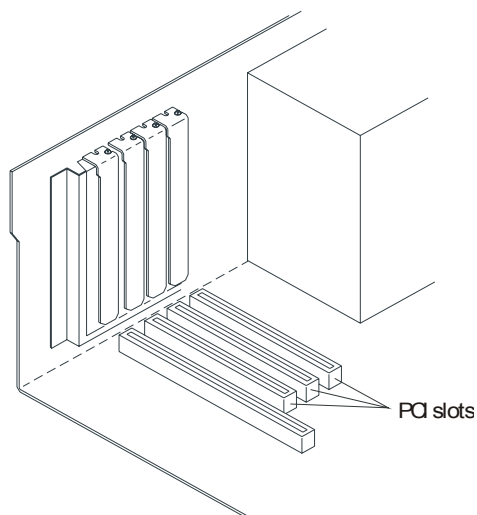

Figure 4-1
2. Locate an unused, unobstructed PCI bus expansion slot (Figure 4-1) that supports bus mastering. (PCI slots are usually white or ivory.) See your computer documentation to determine if the PCI slot supports bus mastering.